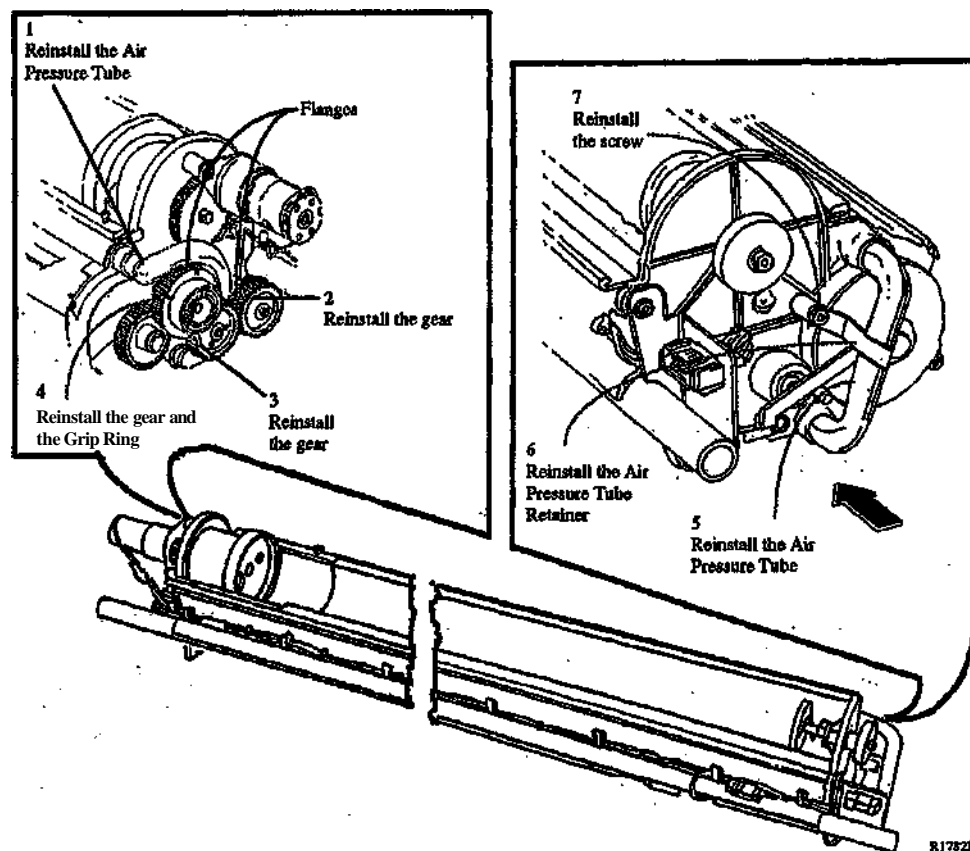

Figure 2. Reinstalling the Air Pressure Tubes
1. (Figure 2): Reinstall the Air Pressure Tubes.